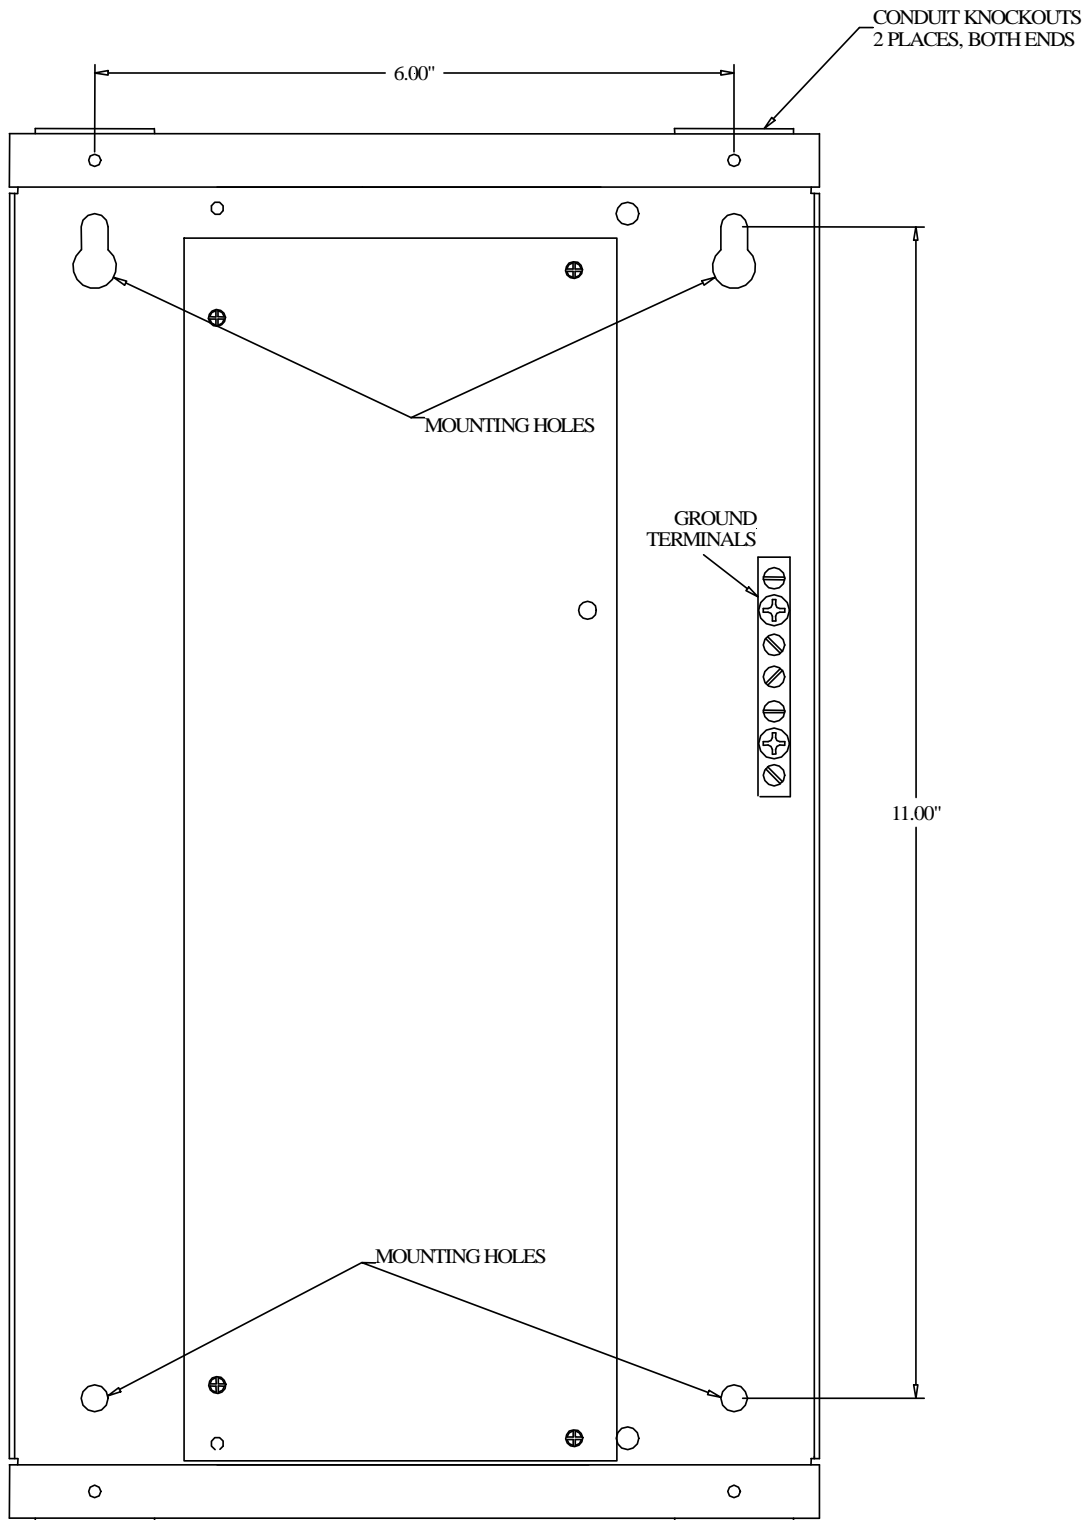

Figure 2:
5. Connect conduit fittings or bushings as needed using knockouts provided on the top and bottom of the SP4-RMX units (see Figure 2).
The shield of each cable should be connected only at one end. Each shield of each cable that connects to the SP4-RMX is to connect to the grounding terminal provided near the right edge of the chassis (see Figure 2).
Refer to Figure 2 for SP4-RMX mounting hole layout. Drill mounting holes for appropriate screws and anchors to ensure secure mounting to the type of surface at the selected location. Keep out dust and dirt during installation. Dust and dirt can interfere with the operation and reduce the life of the equipment.